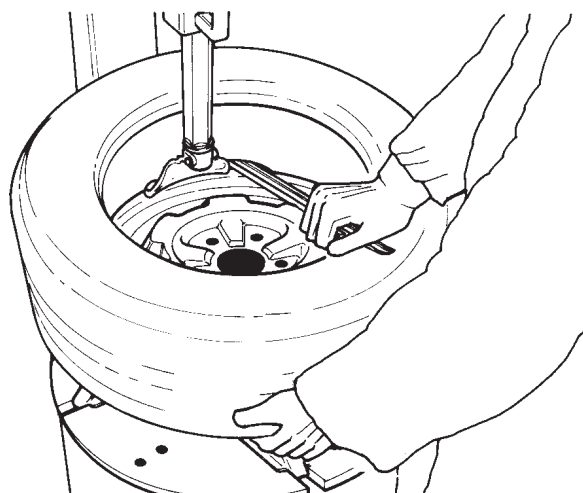

Fig. 4-7
H. Repeat the process for removing the lower bead. This time, lift the bead opposite to the mount/demount head to keep it in the drop center (Fig. 4-7).